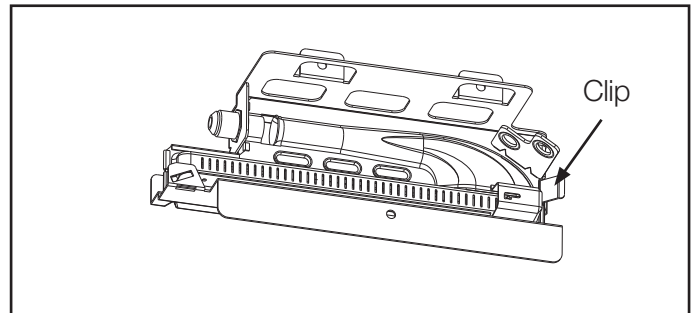

Figure 8
2. Locate the retaining screw below the burner as shown in figure 8.